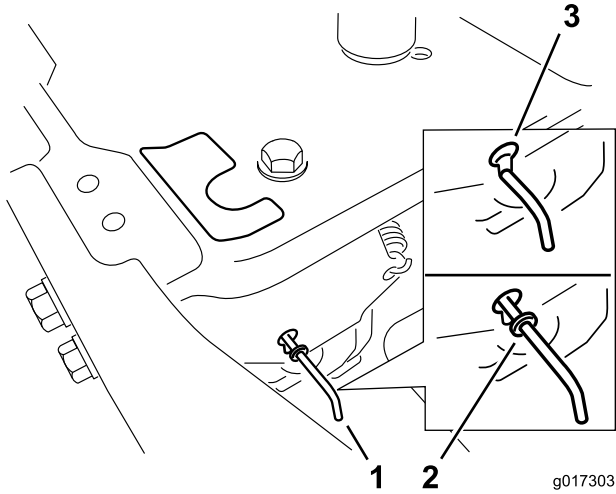

Figure 22
4. Move the bypass levers forward through the key hole and down to lock them in place as shown in Figure 22. Ensure this is done for each lever.
Move the bypass levers rearward through the key hole and down to lock them in place as shown (Figure 22). Ensure this is done for each lever.